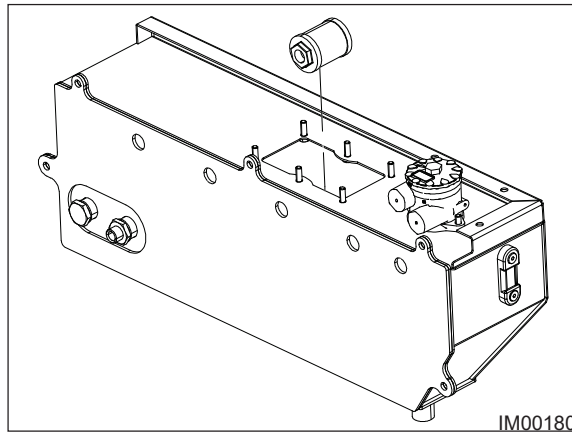

Fig: 11.40 - Suction Strainers
9. Replace the Suction Strainer (Item 1, Fig: 11.40). Rotate the filter Counter-Clockwise and replace with new filter of same specification.